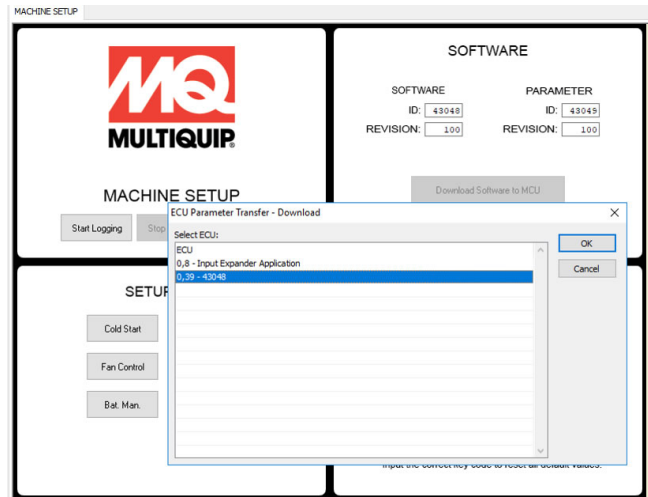

Figure 30. Download all Parameter Values Screen
- After selecting "Download parameters to MCU", a new dialog box will pop up (Figure 30).